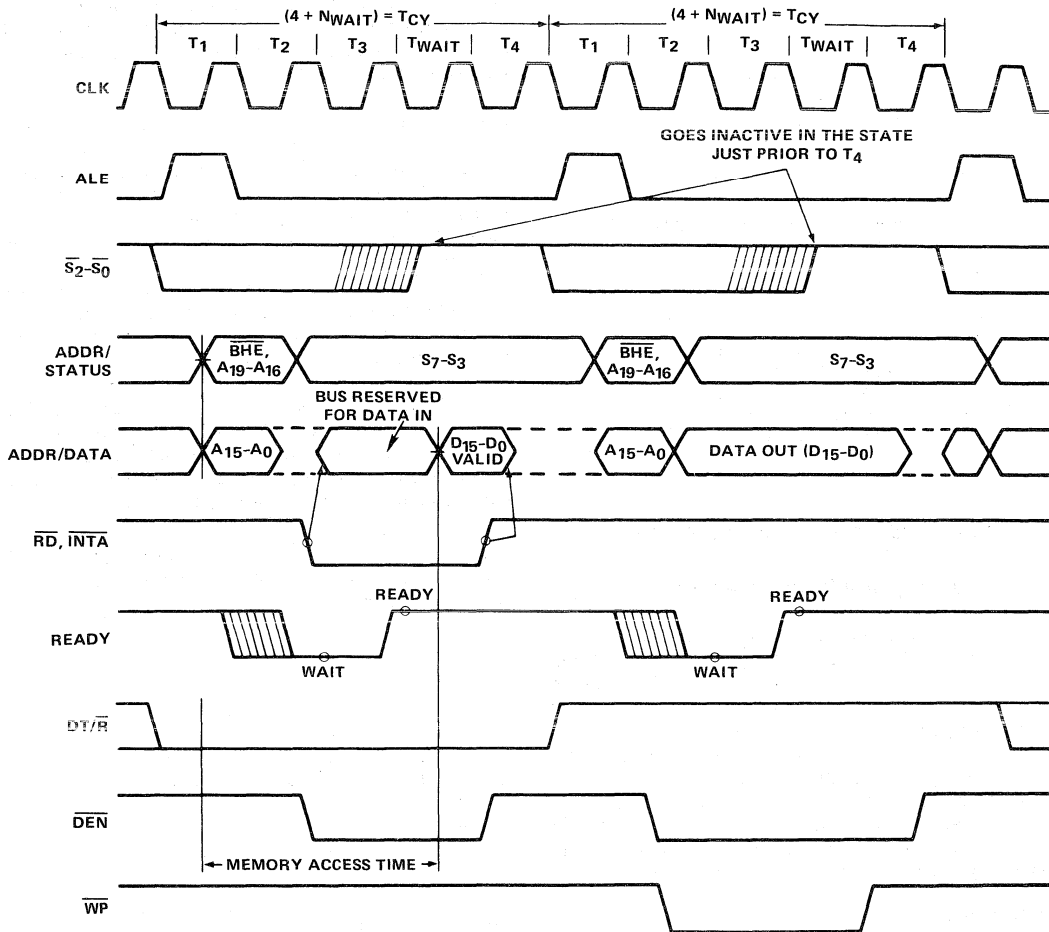
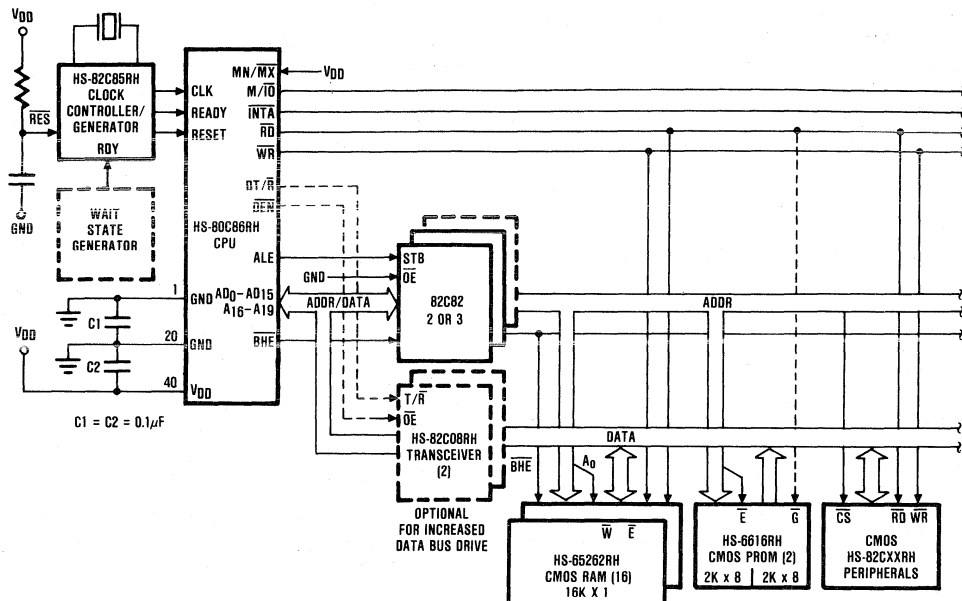

FIGURE 3. BASIC SYSTEM TIMING
FIGURE 6A. MINIMUM MODE HS-80C86RH TYPICAL CONFIGURATION
Each processor bus cycle consists of at least four CLK cycles. These are referred to as T1, T2, T3 and T4 (see Figure 3). The address is emitted from the processor during T1 and data transfer occurs on the bus during T3 and T4. T2 is used primarily for changing the direction of the bus during read operations. In the event that a "NOT READY" indication is given by the addressed device, "Wait" states (TW) are inserted between T3 and T4. Each inserted wait state is the same duration as a CLK cycle. Idle periods occur between HS-80C86RH driven bus cycles whenever the processor performs internal processing.
Typical system configurations for the processor operating in minimum mode and in maximum mode are shown in Figures 6A and 6B, respectively. In minimum mode, the MN/MX pin is strapped to  $V_{DD}$  and the processor emits bus control signals (e.g.  $\overline{RD}$ ,  $\overline{WR}$ , etc.) directly. In maximum mode, the MN/MX pin is strapped to GND and the processor emits coded status information which the 82C88 bus controller used to generate MULTIBUS™ compatible bus control signals. Figure 3 shows the signal timing relationships.